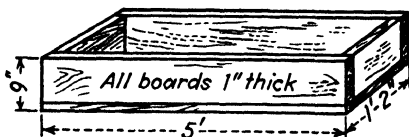

Fig. 308.
40. Calculate the number of board feet needed to construct the open box shown in Fig. 308, if 1-in. white pine is used throughout.
41. (a) What is the weight of the box (Fig. 308)? (b) What would be the weight of a similar steel box?
42. What weight of concrete would the box (Fig. 308) contain when filled? Concrete weighs 150 lb. per cu. ft.